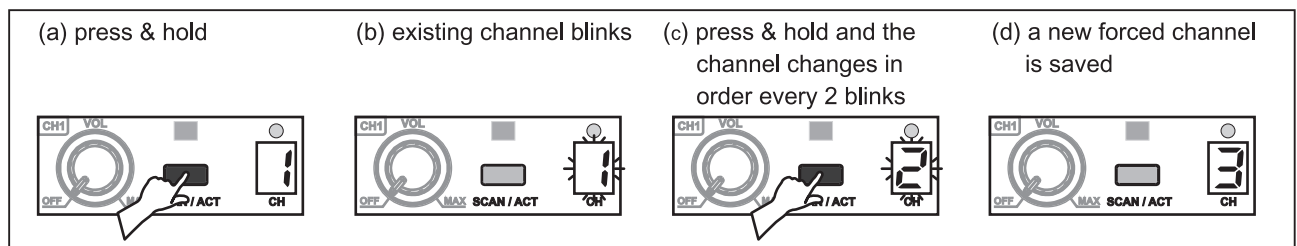

Fig. 5
(2) Manually Search for a Receiver Channel: Press and hold SCAN / ACT Button to perform a manual channel search. Existing channel blinks to denote it is ready to accept parameter changes. During blinking, press and hold SCAN / ACT Button to force the channel to go forward to the next channel in order. Release SCAN / ACT Button until a desired channel is located. This new channel is now saved, Fig. 5.